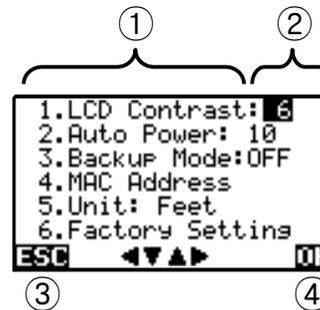

Figure 5. System Setting
- ④ Pressing or selects or confirms, or starts the selected function.
- To change the MAC address of the tester, choose the 4th item in Figure 5 and enter the new MAC address in ① below.
- ② To exit this menu and save the changes press .
- ③ To exit this menu without saving changes press .
- You can reset the tester to default settings (6th item in Figure 5); the tester asks for confirmation. Highlight your choice using ◀ ▶ then press  to accept (Note the exit key is available to cancel).